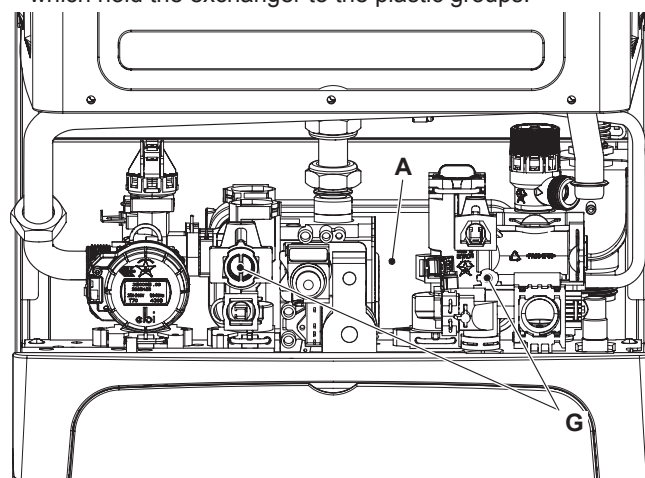

Figure 7.4
- 6 Completely unscrew the two Allen key screws G (Figure 7.4) which hold the exchanger to the plastic groups.